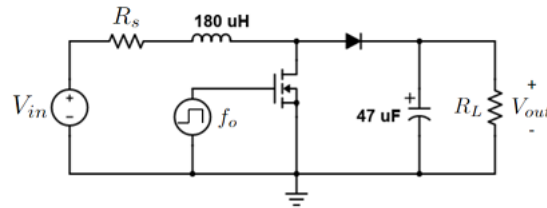
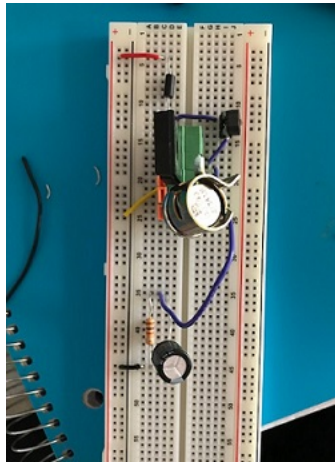

Figure 1: DC-DC boost Circuit
Figure 6: DC-DC boost circuit setup on breadboard
Description: In your own words (i.e. not the interweb's words or your BFF's words) describe qualitatively how the DC-DC boost circuit shown below in Fig. 1 is able to produce a larger voltage at V_{out} as compared to V_{in} . You are welcome (and encouraged!) to use figures/pictures for your explanation. Assuming an ideal square wave input to the MOSFET gate with period T_o , qualitatively plot the corresponding ideal voltage (as a function of time) across the diode.
- I set up the circuit in Figure 1 on the breadboard, but I modified it to make the construction with the materials I had more feasible. The finished circuit can be seen in Figure 6.